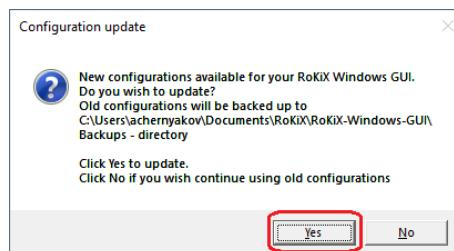

Figure 26: Configuration Updated Popup Window
- ✓ If Configuration update pop-up window is shown, click Yes to download the latest configurations from the server (Figure 26).